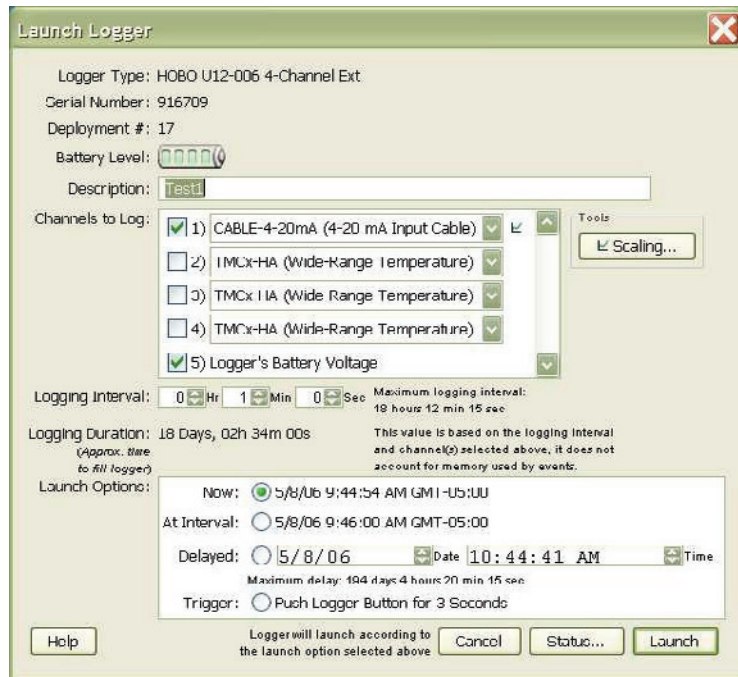

Figure 6 HOBO Launch Window
7. Click the Launch icon  on the toolbar. This displays the logger's Launch window. Launch windows vary for each type of logger, but most should look similar to Figure 6.